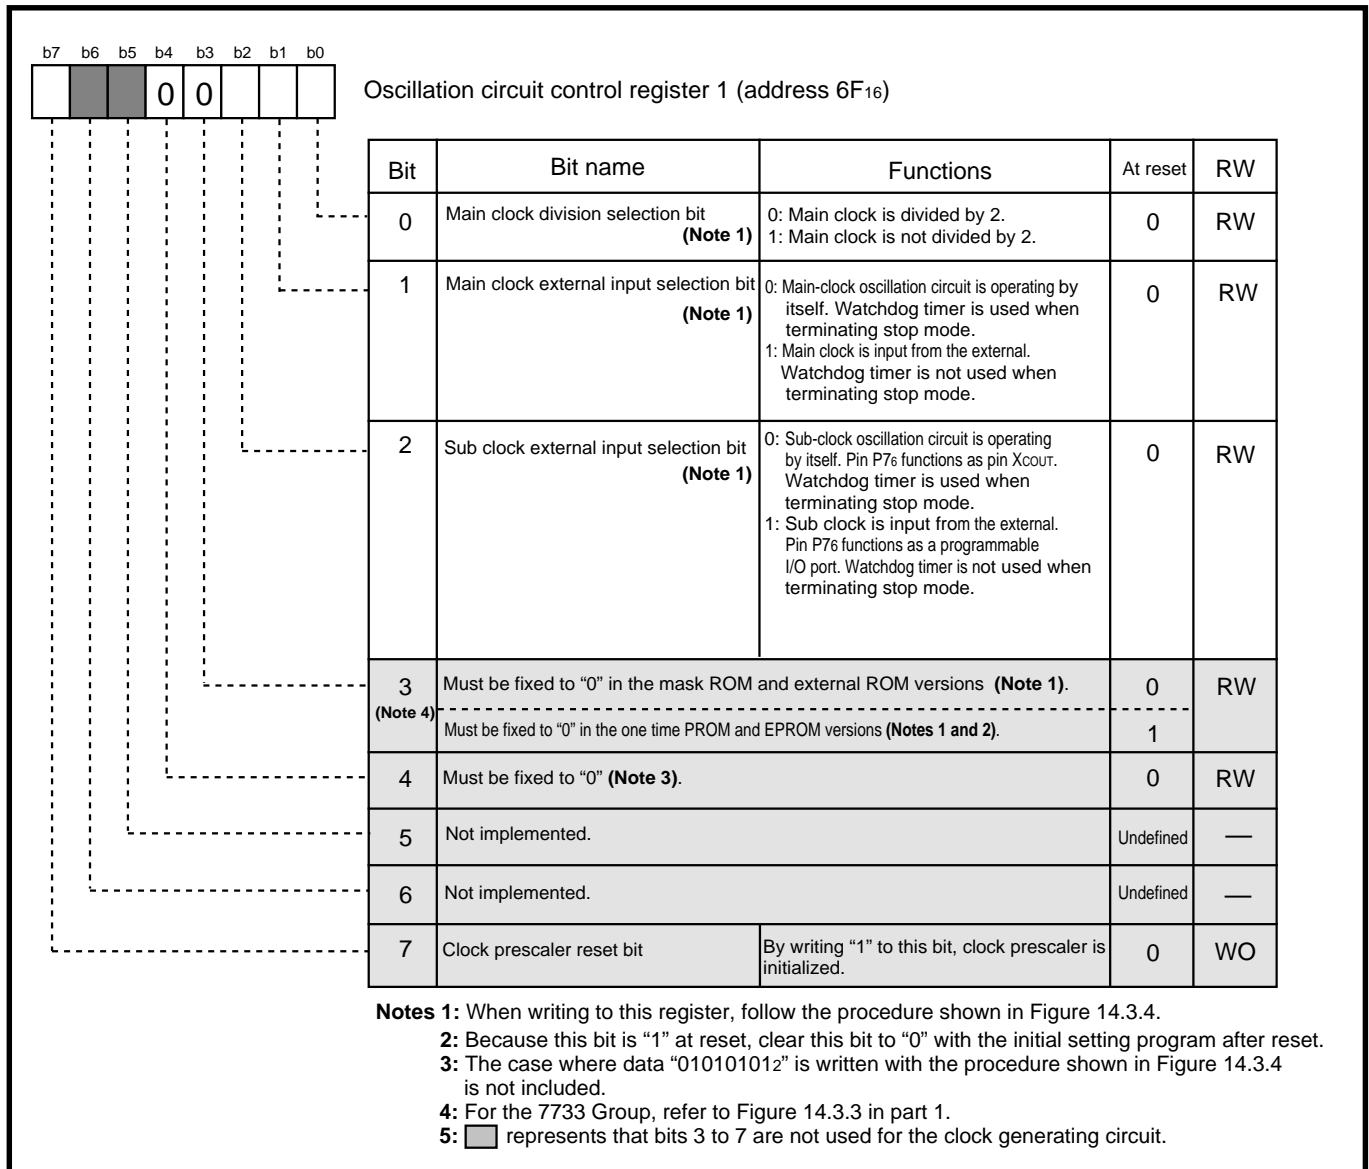

Fig. 14.3.3 Structure of oscillation circuit control register 1
(Refer to **Figure 14.3.3 in part 2** ; This bit's function of the 7735 Group differs from that of the 7733 Group.)
- **Figures 14.3.3 and 14.3.4**